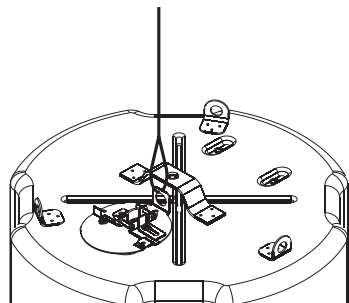

Figure 13: Attach Safety Support Line
Step 6: Connect an Safety Support Line (Figure 13)